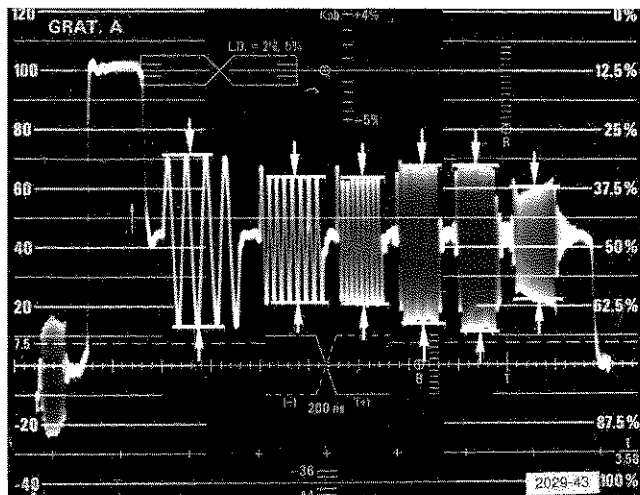

Fig. 1-11. Using the MULTIBURST signal to measure frequency response. Measure peak-to-peak amplitudes at the center of each packet as shown.
**MULTIBURST.** The MULTIBURST signal consists of a white flag (100 IRE) and six packets of sine wave bursts, each at a discrete frequency. This allows an approximation of the frequency response of a system driven by this signal. When measuring frequency response using the MULTIBURST signal, measure the peak-to-peak amplitudes of the individual packets, near their center if possible (see Fig. 1-11). Avoid using the outline of the packets as a frequency response curve, because the center level of the packets might be shifted vertically by distortions in the system being measured.